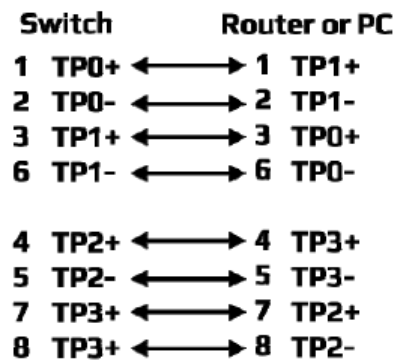

Figure 2.2
The front panel of the 26-Port Industrial Gigabit PoE+ Unmanaged Ethernet Switches with 24*10/100/1000Tx (PSE: 30W/Port) and 2* Gigabit Combo Ports (2*10/100/1000Tx RJ45 and 2*100/1000 SFP Slots). See *Figure 2.2*.
■ RJ45 Pin Assignments (Figure 2.2 & 2.3)